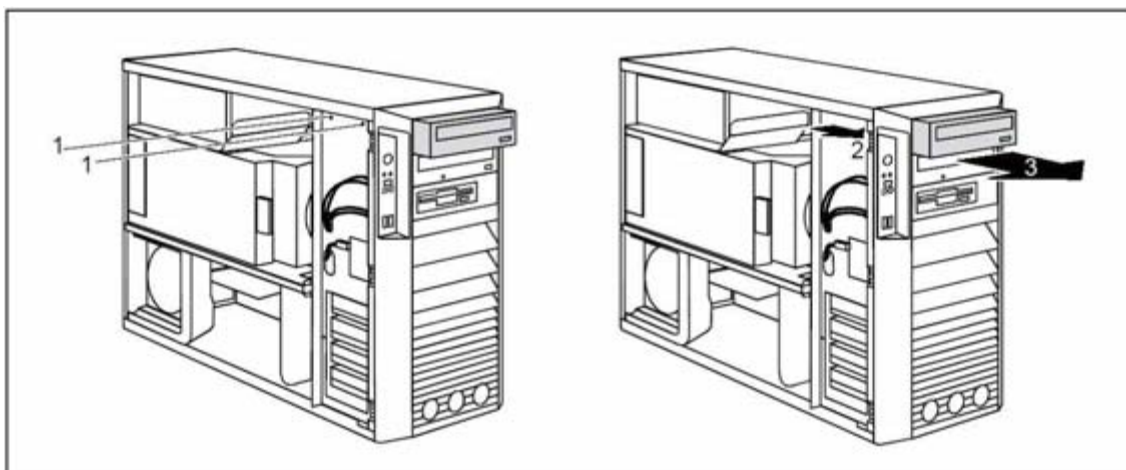

Fig. 43: Replacing the drive M450_
5. Loosen the screws (1/ Fig. 43 / p. 74).
6. Slide the drive out of the bay in the direction of the arrow (2/ Fig. 43 / p. 74) from behind. The drive now extends slightly out of the casing.
7. Slide the drive out of the casing (3/ Fig. 43 / p. 74).